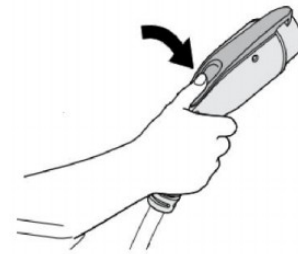

Fig.6-6 Pick off the charging connector
- b) Pick off the charging connector and is shown as Fig. 6-6.